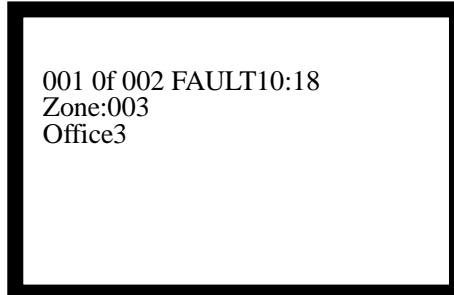
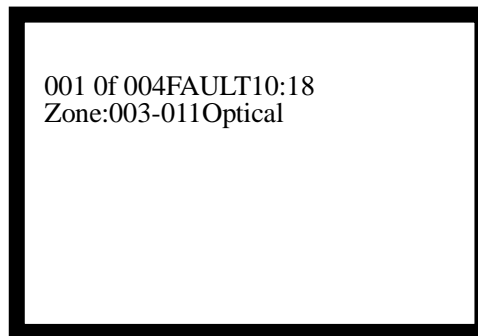

Fig. 5-5
Fig. 5-6
- The LCD displays the fault message. The fault screen is as in Fig. 5-5 for zone display mode, and as in Fig. 5-6 for loop display mode.